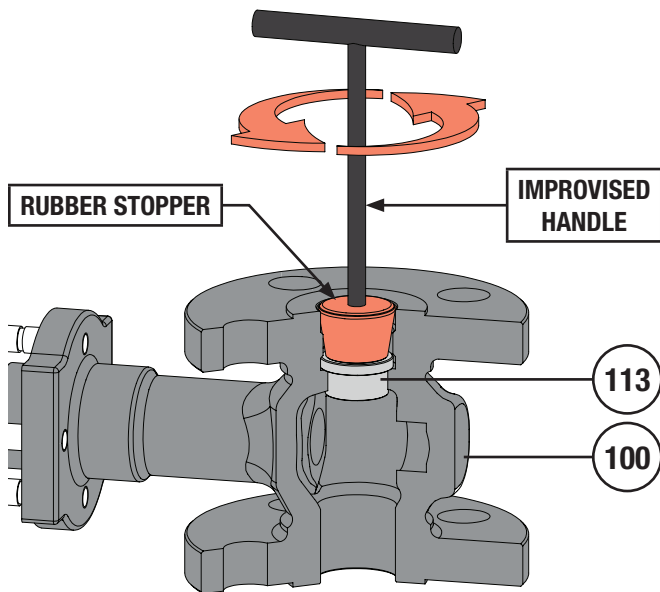

Figure 39 Lapping Using A Rubber Stopper
- A rubber stopper (refer to Figure 39)